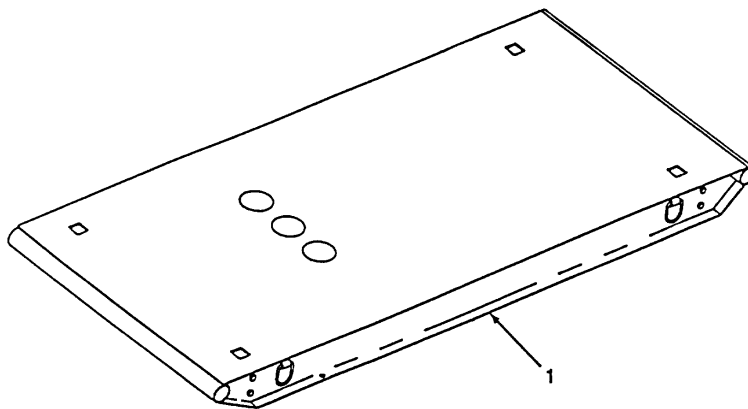

Figure 5-28. Skid Weldment
a. Repair. (Refer to Figure 5-28).
- (1) Inspect skid (1) for dents, cracks, or corrosion.
- (2) Weld cracks as needed (Ref. TM 9-237)
- (3) Fix dents as needed. (Ref. FM 43-2).
- (4) Clean off corrosion with wire brush then repaint in accordance with TM 43-0139.
- (5) Inspect skid (1) for straightness. Repair if necessary.